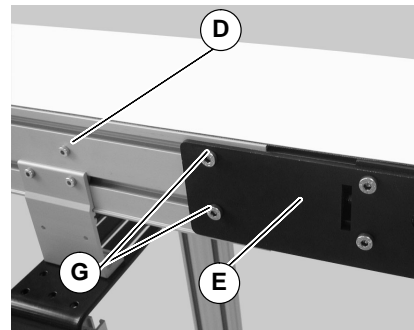
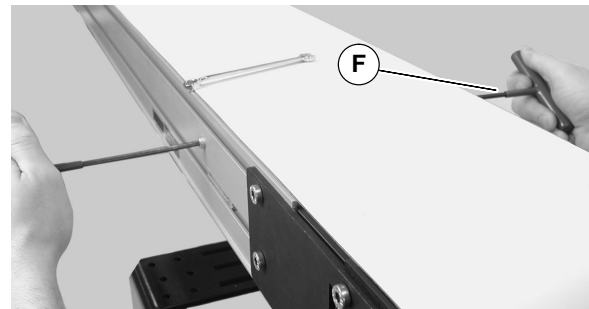

Figure 8
Figure 9
- On tension end of the conveyor, identified by the pinion locking screw (D of Figure 8), loosen the two tail clamp bolts (G), on both sides of conveyor.
- With 5mm hex wrench, hold pinion torque screw (F of Figure 9). Loosen the pinion locking screw (D of Figure 8) and turn the pinion torque screw (F) to extend head plate assembly.
- After adjusting proper tensioning, tighten the pinion locking screw (D of Figure 8) to 69 in-lbs (7.8
N–m), and tighten tail clamp bolts (G of Figure 8) on both sides of conveyor to 146 in-lb (16.5 N–m).
16. After adjusting proper tensioning, tighten the pinion locking screw (D of Figure 28) to 69 in-lbs (7.8 N-m), and tighten tail clamp bolts (G of Figure 8) on both sides of conveyor to 146 in-lb (16.5 N-m).